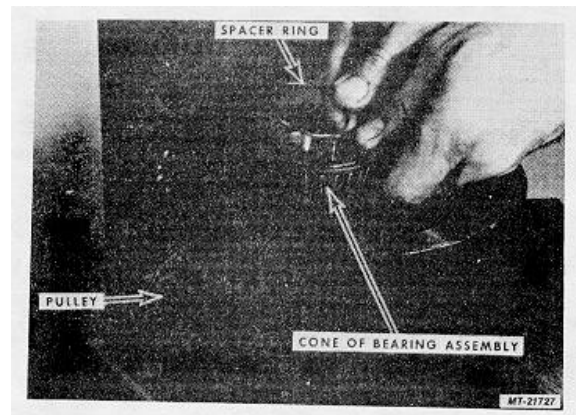

Fig. 35.
32. Remove Spacer Ring and the cone of Bearing Assembly, Fig. 35.